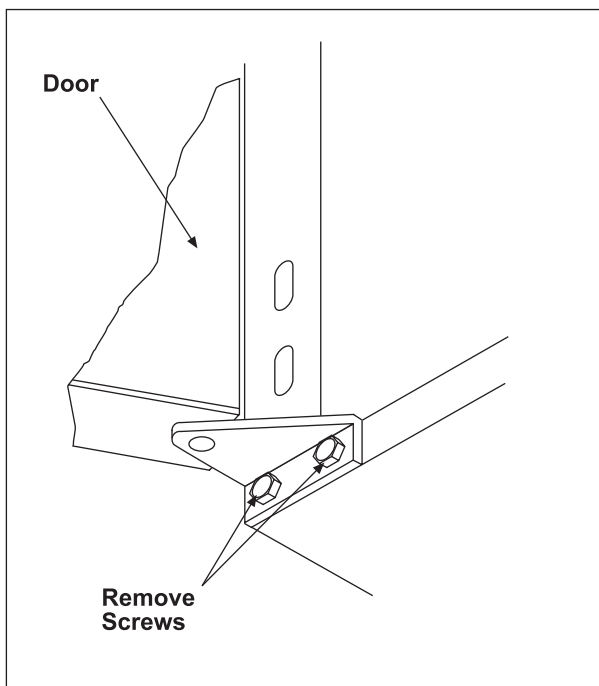

Figure 1
1. While holding onto the door remove (2) screws securing the door hinge to the fryer bottom front flange (Figure 1).